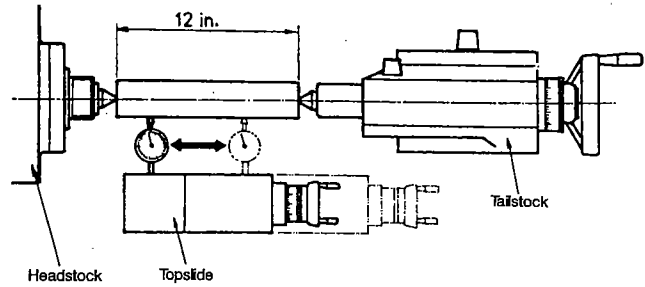

Fig. 32
1. Fit a 12" ground steel bar between centers of the headstock and tailstock. (See Fig. 32)